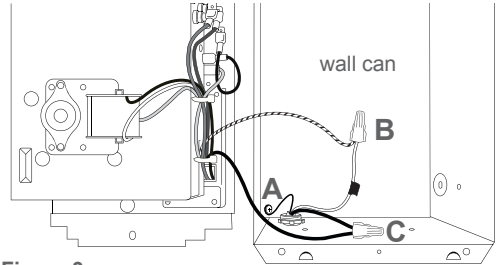

Figure 3
- A.** Connect supply ground wire to grounding screw in wall can (See Figures 3 and 4).
For 240 or 208 volts, it doesn't matter which heater wire. Both supply wires (black and white) are hot. Wrap supply (white) wire with black tape to identify it as hot (Figure 3).
- C.** Connect the remaining supply wire to the remaining heater wire with a wire connector (not included) (See Figures 3 and 4).